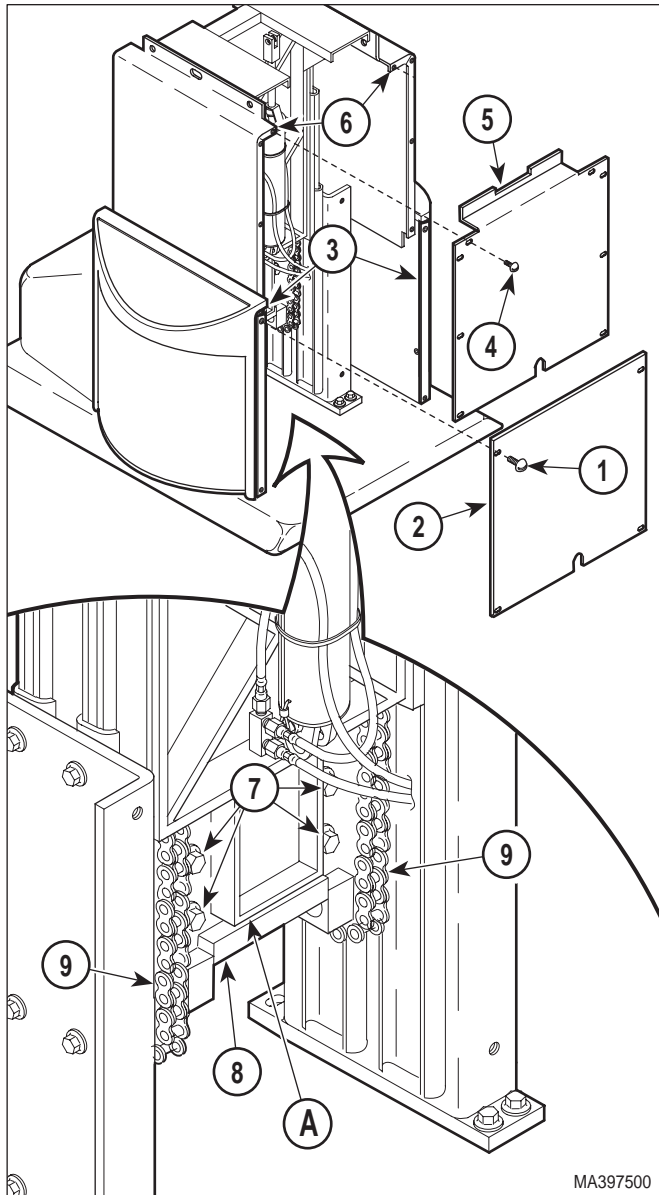

Figure 4-25. Chain Assembly Adjustment
- (1) Raise TABLE UP function all the way up.
- (2) Unplug table power cord from outlet.
- (3) Remove four screws (1, Figure 4-25) and front outer shroud (2) from left and right hand outer shrouds (3).
- (4) Remove eight screws (4) and front inner shroud (5) from left and right hand inner shrouds (6).
- (5) Loosen four screws (7).